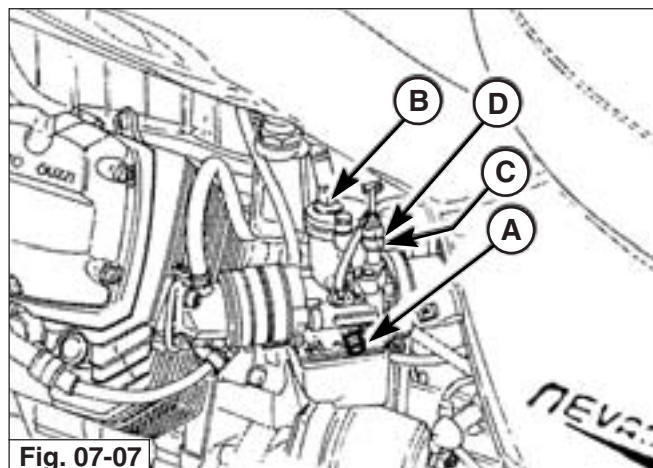

Fig. 07-07
4 REGOLAZIONE GIOCO CAVI COMANDO "CHOKE" (FIG. 07-07 E 07-08)
- "CHOKE" **cold start** control lever ("E" in fig. 07-07) located on left side of handlebars.
ADJUSTING THE «CHOKE» CABLE PLAY (FIG. 07-07 AND 07-08)
- Per regolare il regime minimo a 1200÷1300 giri/min avvitare o svitare della medesima misura entrambe le viti "A" (Fig. 07-07).
- To adjust idle speed to 1200÷1300 rpm, tighten or loosen, by the same amount, both screws "A" (Fig. 07-07).
(figs. 07-07)